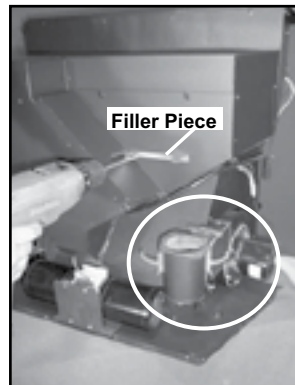

Figure 17.2
1. Remove the top vent adapter from the vertical exhaust transition pipe. **Figures 17.2 and 17.5.**